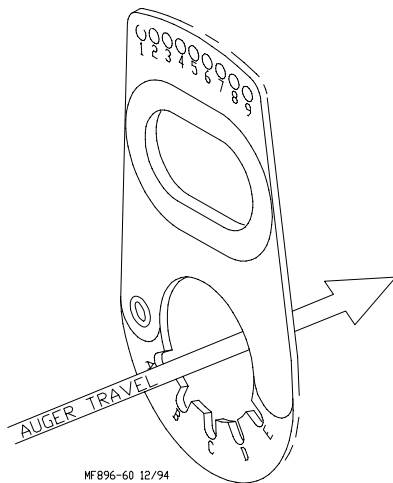

Figure 31.
10. Pull another 18" (450 mm) of auger and install another set of locking pliers to keep the auger from springing back into the auger tube. See **Figure 31**.